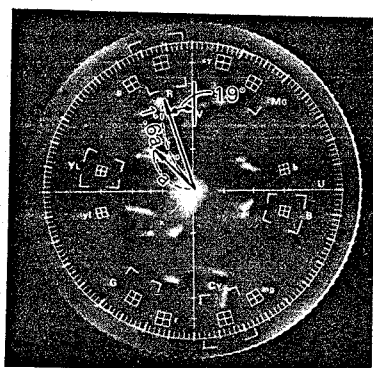

Fig. 6-4-45
- Adjust CHROMA GAIN VR321 so that the RED vector on the vectorscope is equal to 160% as compares to the burst signal. (See Fig.6-4-45)
- Adjust COLOR REPRODUCTION VR322 so that the RED vector is 19° away from the R-Y axis. (Fig.6-4-45)